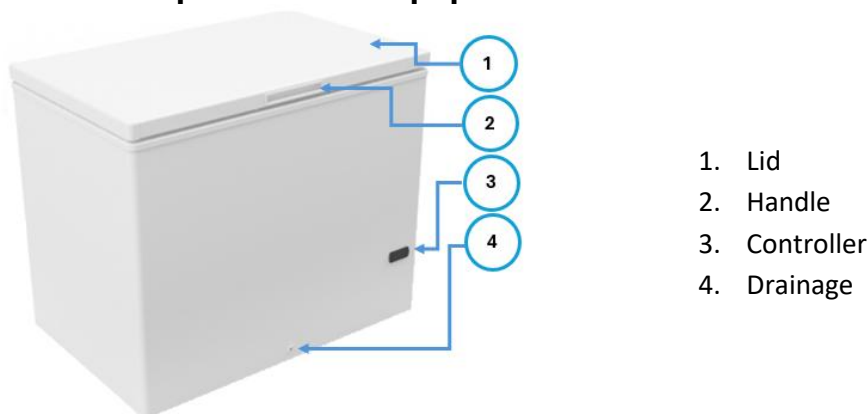

Fig. 2 - Example of a THC equipment.
- Check if the power source's voltage and respective frequency correspond to the recommendations in the equipment's rating plate found on the back (Fig. 2).